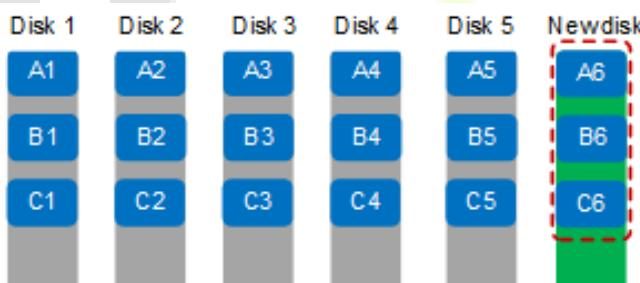

Figure 5 Recording storage
- New recording data is preferentially stored in the new hard disk until the available space of the new hard disk is the same as that of the original hard disks, as shown in Figure 5.